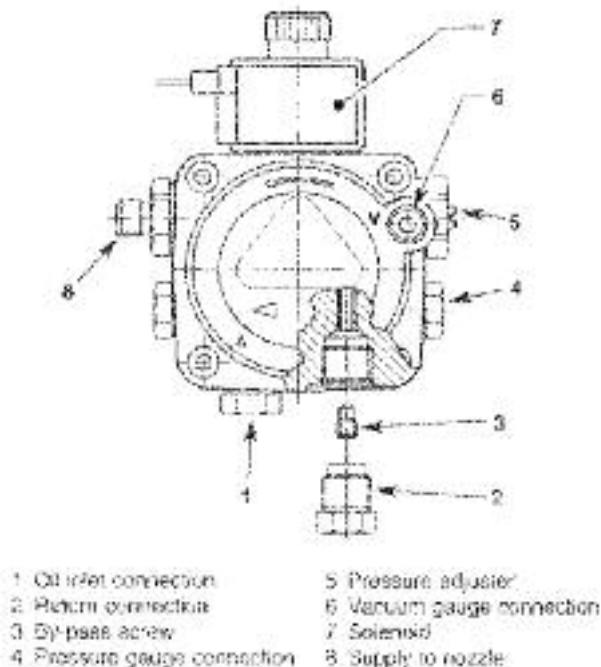

Fig. 6 - Riello RDB pump
#### Riello RDB burner - See Fig. 6
- 1 The fuel pump is supplied for use with a single pipe supply system. For use on a two pipe system, it is necessary to fit the By-pass screw (see Fig. 6) into the tapping in the return port.